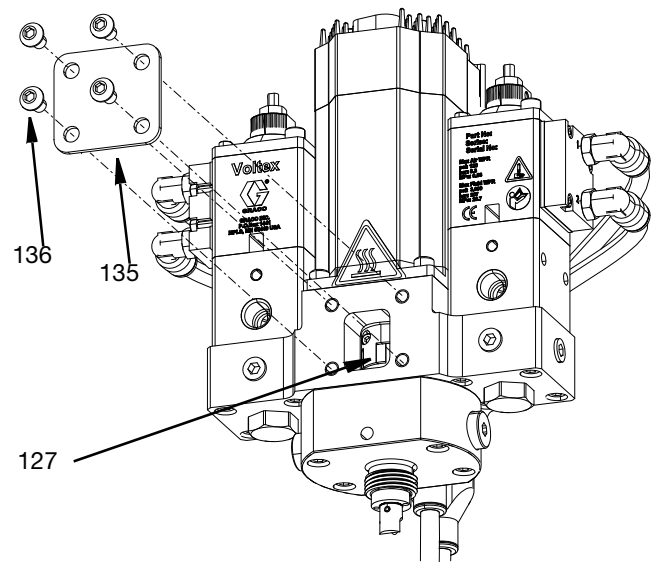
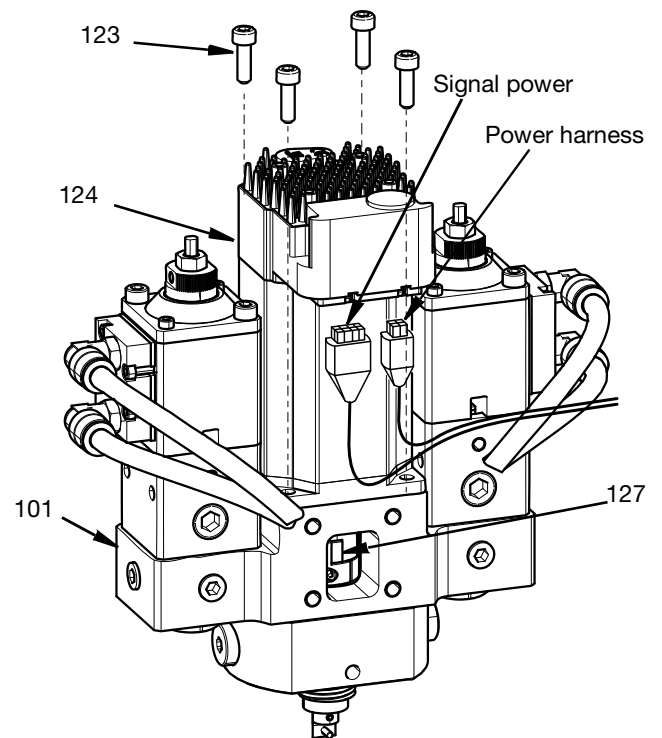

FIG. 49
FIG. 53
2. Remove the coupling cover (135) by removing the four screws (136) with a 4mm Allen wrench.
3. Loosen clamp screw on the lower part of the rotary coupling (127) using a 5/64 in. allen wrench. Do not use a ball end allen wrench. See FIG. 49.
3. Remove the four M6 screws holding the coupling cover using a 5 mm allen key. See FIG. 49, page 57.
4. Loosen clamp screw on upper part of the coupler (127) using a 5/64 in. allen key. NOTE: Do not use ball end allen wrench.
5. Remove the four M5 screws (123) with a 4mm allen wrench.
6. Remove the motor (124). See FIG. 53.